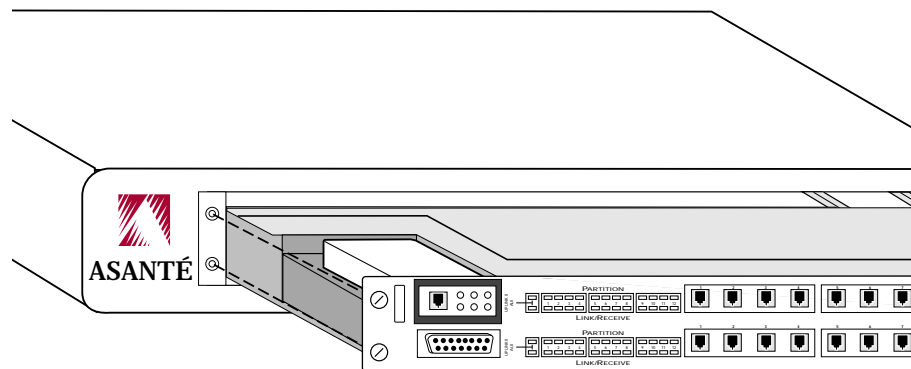

Figure 4 Installing the RJ45B Module
- 2** Align the module to the edges of the card guides on the slots in the chassis. Gently slide the module in until you can begin tightening the screws. See Figure 4.